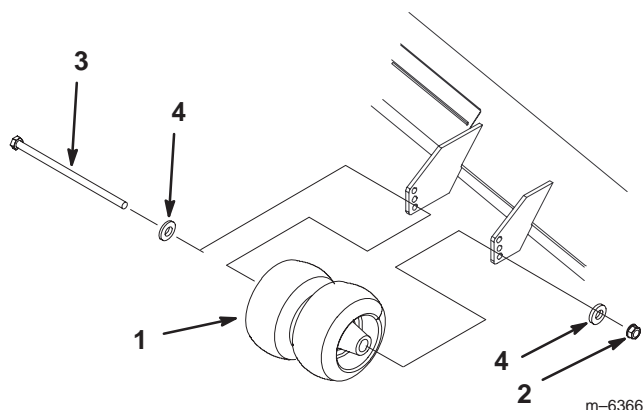

Figure 17
1. After adjusting height-of-cut, check the gage wheels so that there is a minimum of 3/8 inch (10 mm) clearance above the ground (Fig. 17).
2. If adjustment is needed, remove the bolt, washers and nut (Fig. 17).
3. Select a hole position so the gage wheels are a minimum of 3/8 inch (10 mm) off the ground (Fig. 17).
4. Install the bolt, washers and nut (Fig. 17).